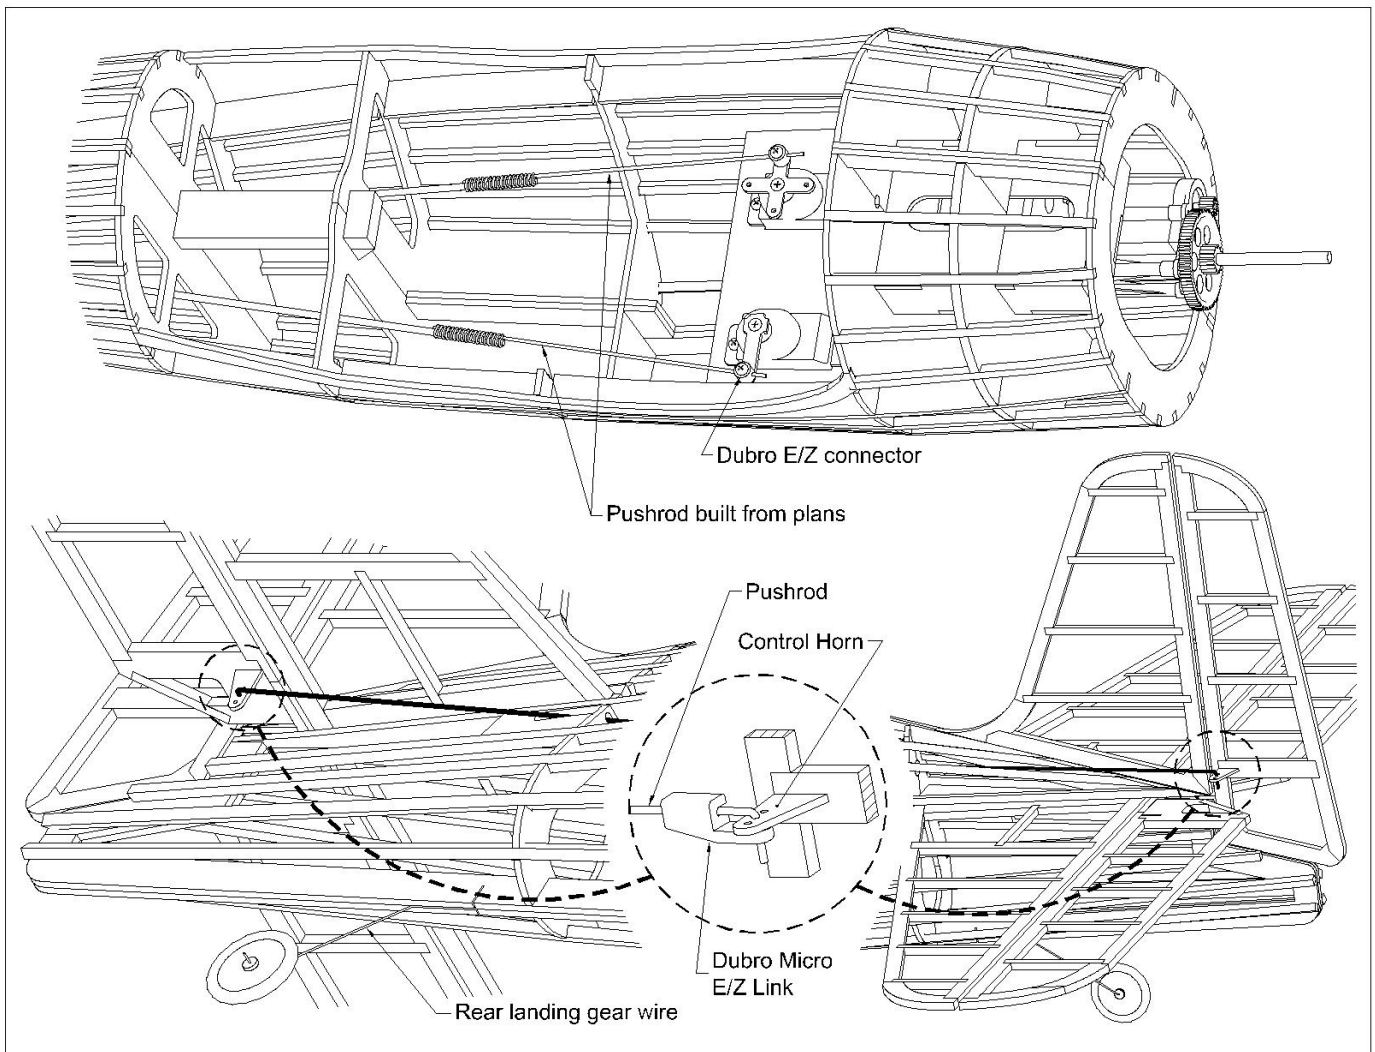

Figure 5
- ❑ Refer to Figure 5 for the routing and connection of the pushrods to the servos, elevator and rudder.
- ❑ The control rods at the servo end are attached to the servo with the adjustable Dubro E/Z connector. The control rod wires at the control surface ends are attached by the 1/32" music wire that passes through the holes in the control horns. Be sure the wires passing through the control horns extend about 1/4" so that the Dubro E/Z Link will retain the control rod to the control horn. This is illustrated in Figure 5.